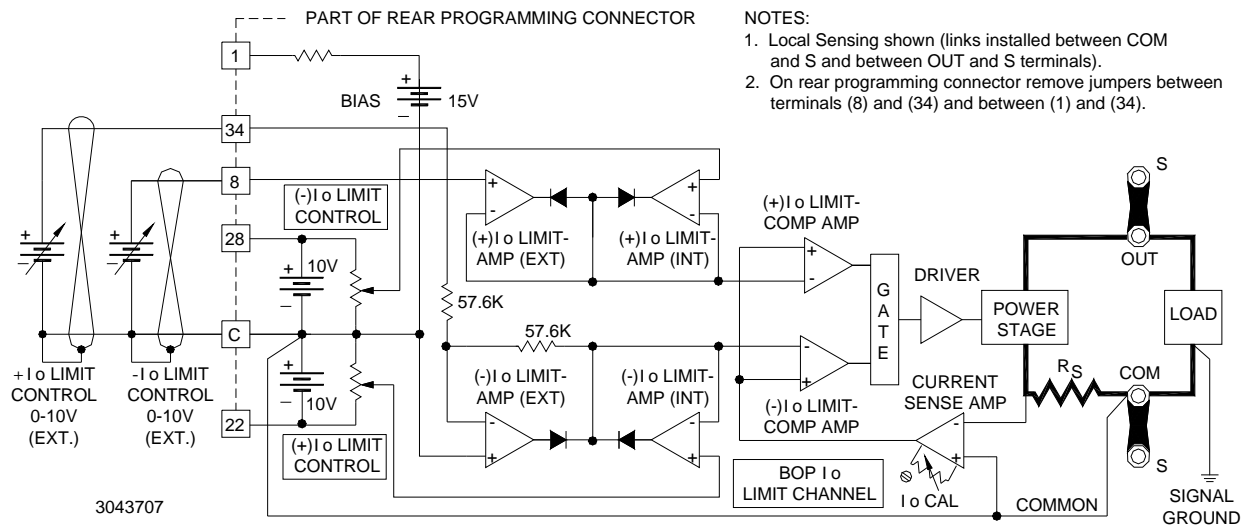

FIGURE 3-13. INDEPENDENT REMOTE CONTROL OF + I_O AND - I_O LIMITS
If individual control of the \pm current limits is desired, the jumper between (8) and (34) at the Rear Programming Connector must be removed and separate control sources must be connected: 0 to +10 volts to pin 8 for the $+ I_O$ limit, and 0 to +10 volts to pin 34 for the $- I_O$ limit, both with reference to common (see Figure 3-13).